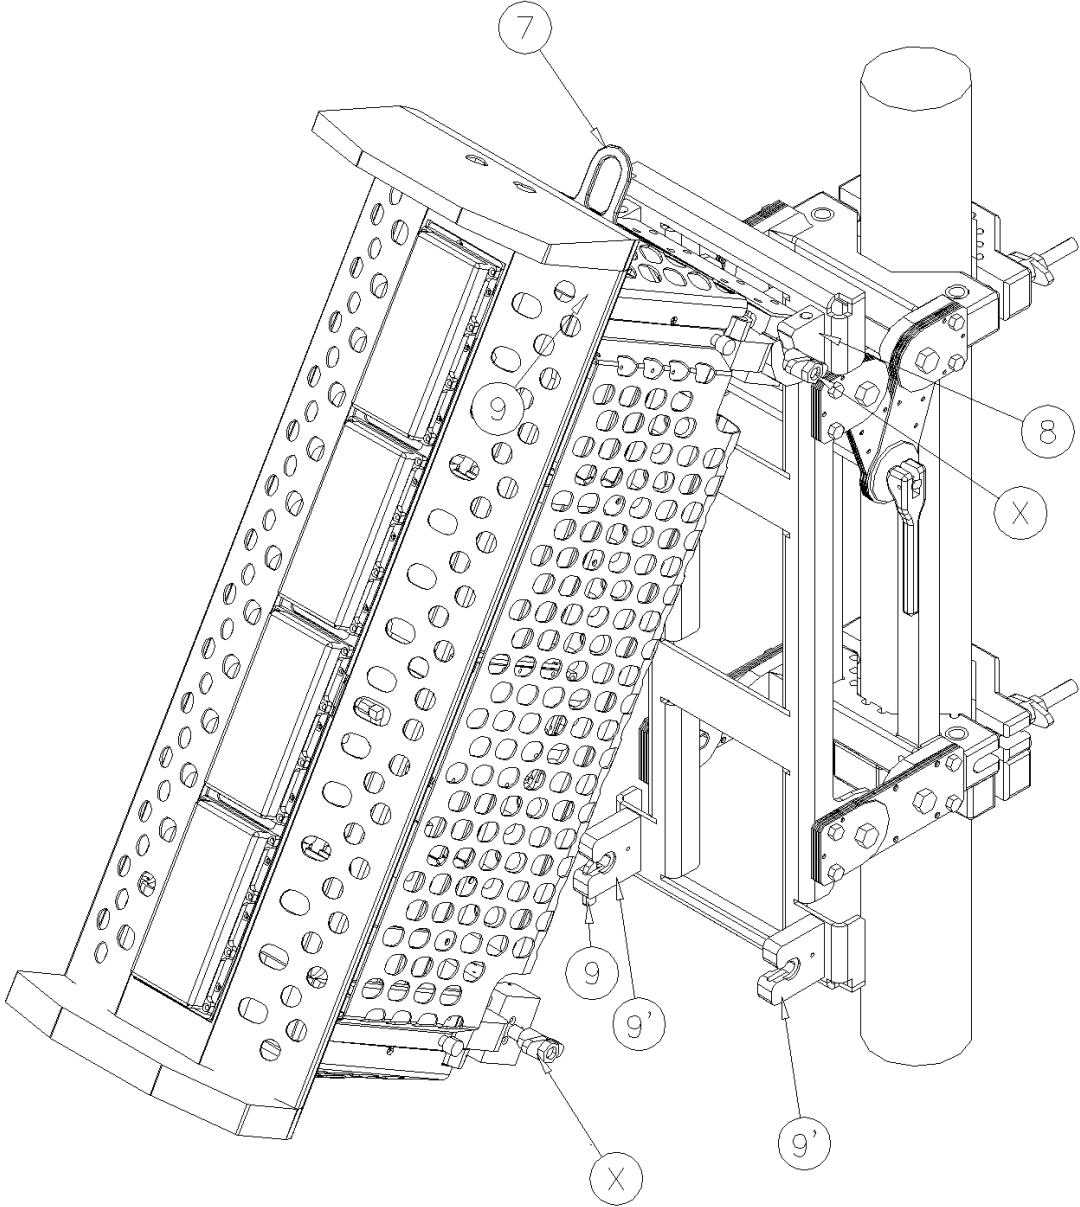

Figure 13: BEAMER Array Mounting/Dismounting (Lower fork)
#### 2.6.2. BEAMER Array Mounting (Figures 13 and 14):
**2.6.3. BEAMER Array Dismounting (Figures 13 and 14):**